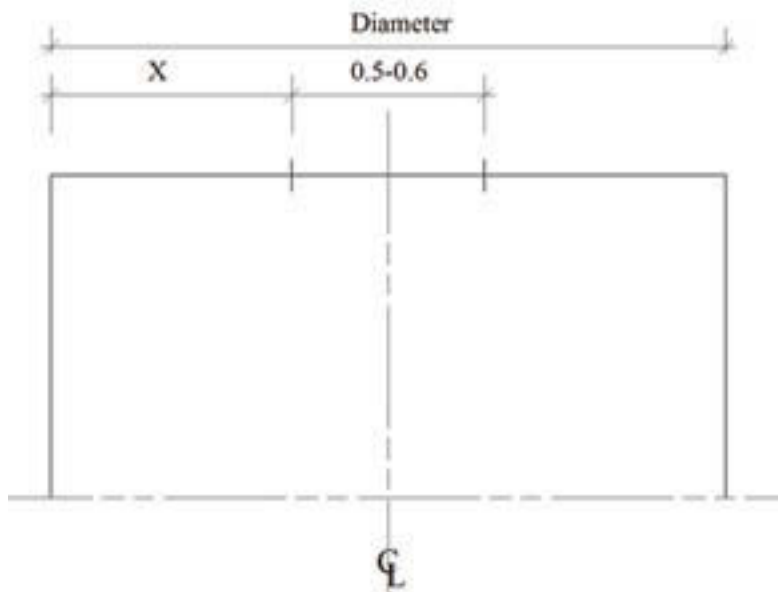

Fig. 75: Tank shape, top — Step 1
- The next step is to calculate the curves that give the tank its jar shape. Draw the top as a rectangle, leaving a 0.5–0.7 m opening for a maintenance hatch (figure 75).